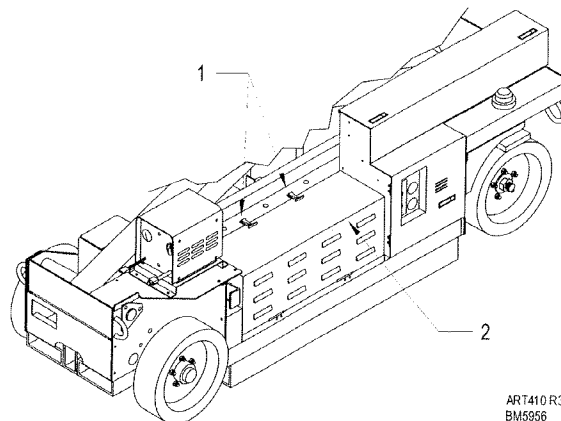

Figure 3-4. Battery Tray Cover
1. Release latches (1, Figure 3-4) and pivot battery tray cover (2) open.